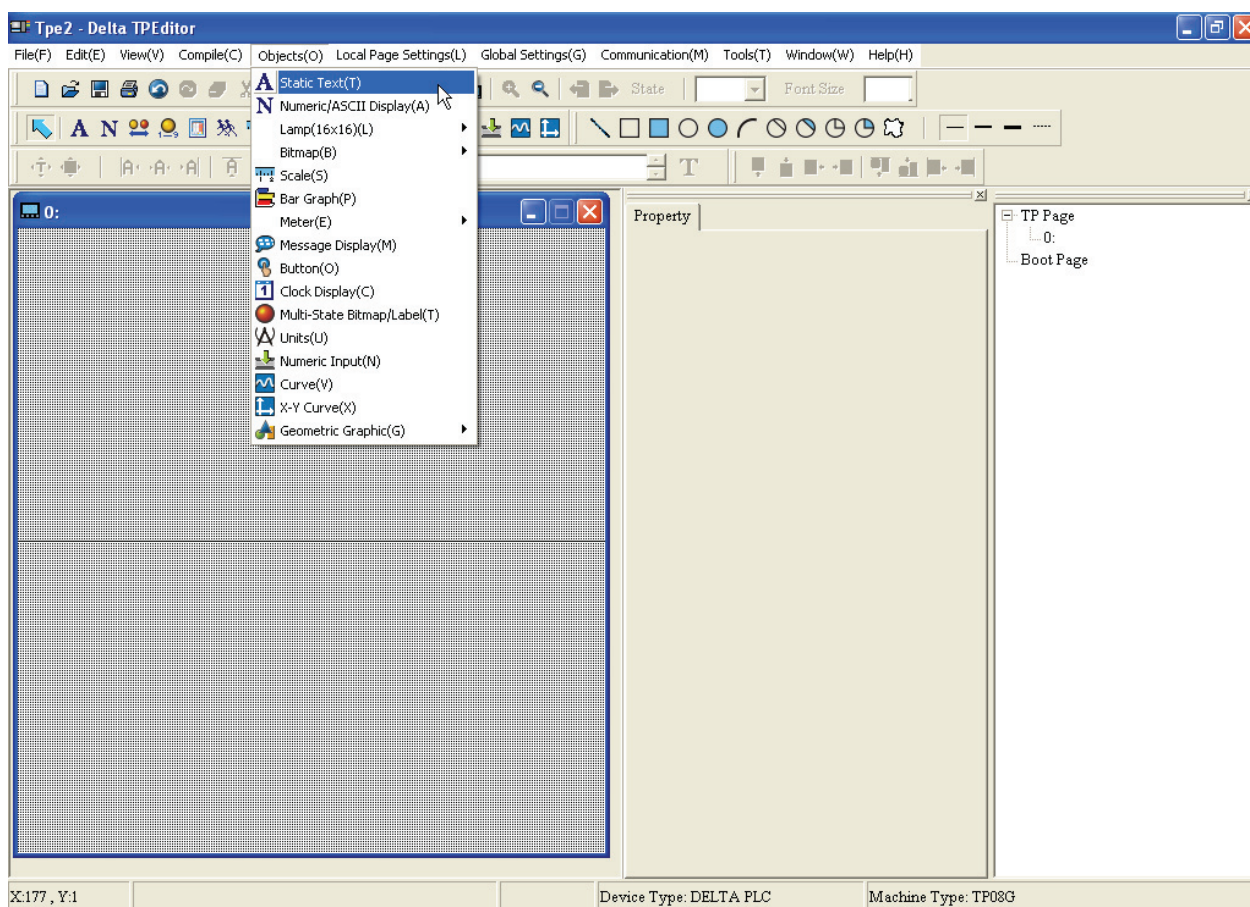
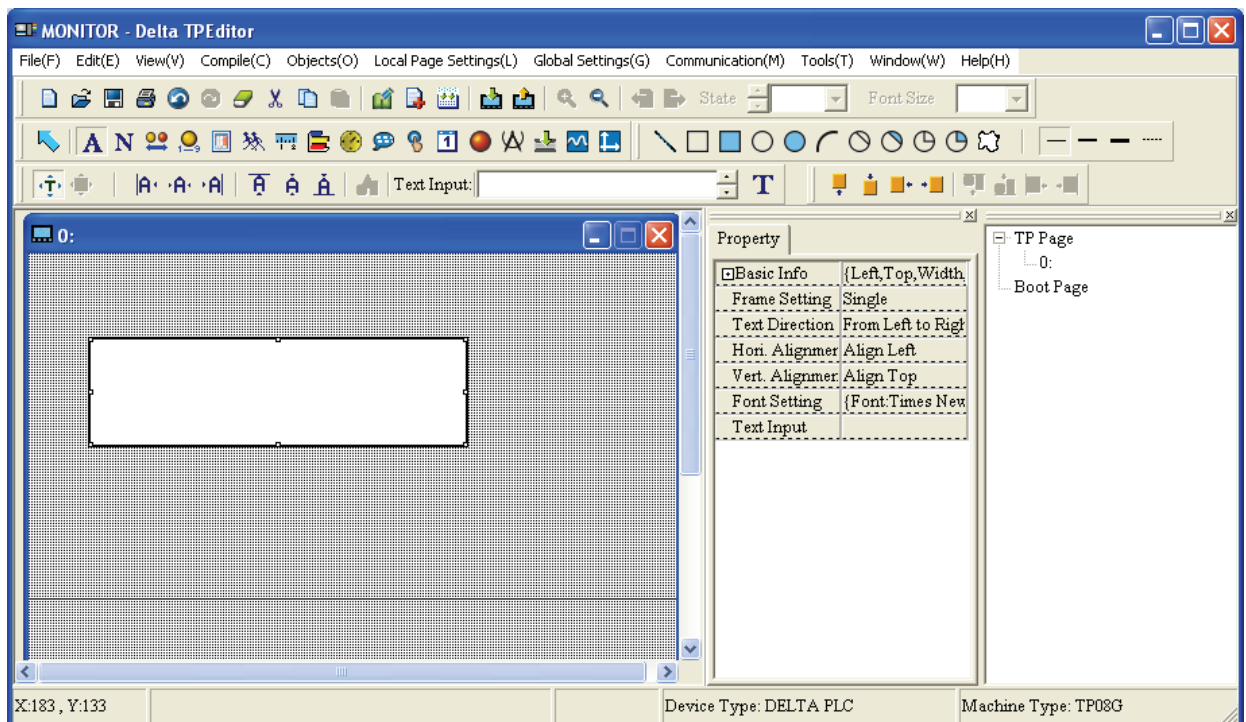

Figure 1-54
Figure 1-55
The users can click **Object(O)** command from the menu bar (or use keyboard shortcuts by pressing keys **(Ctrl) + (O)**) to select the desired objects. After clicking **Object(O)** command, a pull-down menu will show up to let the users to select the desired objects (Figure 1-54). Since the pull-down menu is the management system for all objects. Before using this function, the users need to open a page on the screen otherwise **Object(O)** will not be available for use.
Step 1. Choose **Object(O) > Static Text(T)** command from the menu bar or click the icon  on the toolbar (Figure 1-54). At the moment, move the mouse on the editing screen area, the cursor will be a +. Left click and drag the mouse in the editing screen area. The screen will look like the Figure 1-55 below after the static text square is made. In TPEditor, the users can create one or many objects by dragging the mouse in the editing screen area directly without clicking the **Static Text(T)** command from the menu bar or clicking the icon  on the toolbar again. After the object is created, the users can select the desired objects by clicking the  on the toolbar. The selected icon on the toolbar will become a concave icon to let the users know it is used.